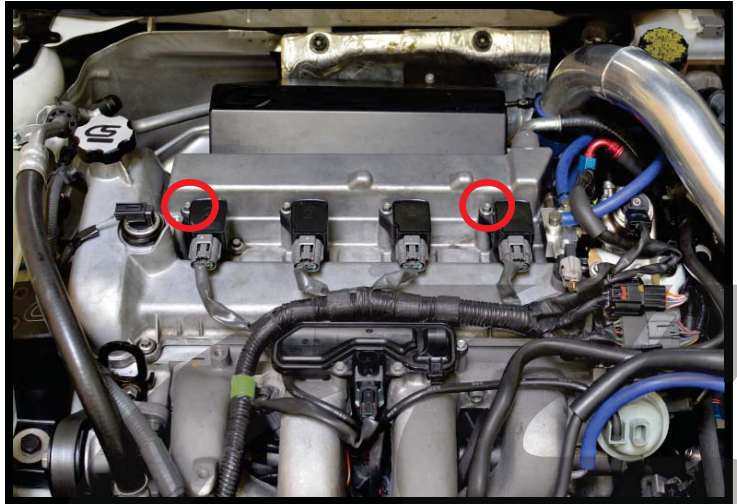

Figure 1a
- a) Remove the two outermost 8mm coilpack bolts shown with the red circles in Figure 1a.